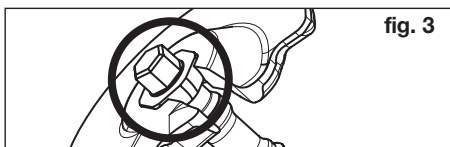

fig. 3
- Lower the spindle's ① 6-point cap (calotte) from the top downwards into the reception hole of the upper tensioning jaw (figure 3).
- Check correct fit and assembly of the 6-point cap (calotte) (figure 3).